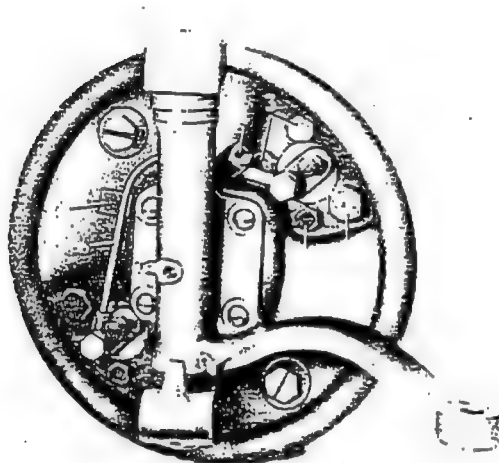

Fig. 42-5/1
2. Unscrew the hollow screws from the brake wheel cylinders and remove the brake line (4) from the brake wheel cylinders, paying attention to the rubber pad (5) between the line and the brake anchor plate (Fig. 42-5/1).